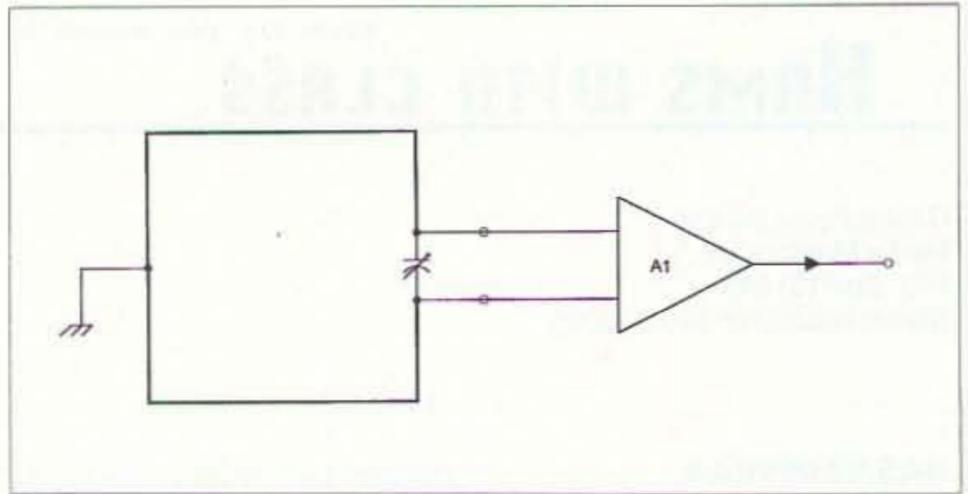
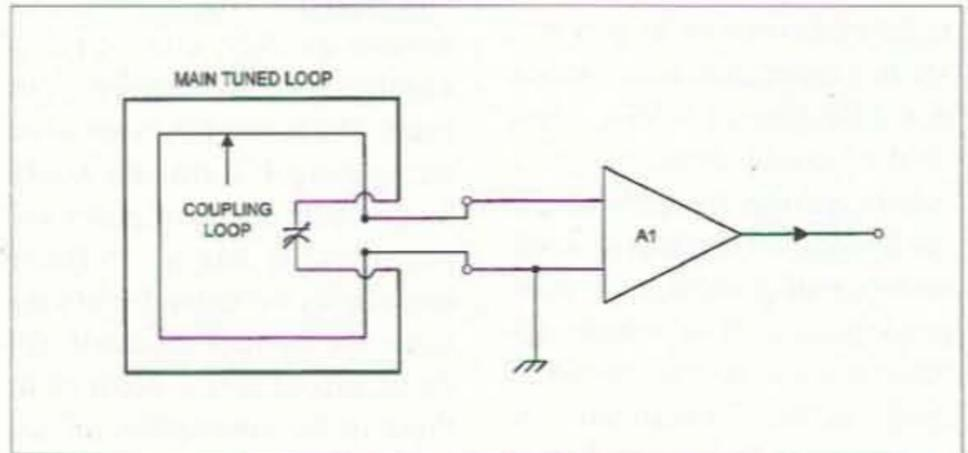

Fig. 1. Basic single-ended loop amplifier.
Fig. 2. Single-ended with coupling loop.
**Fig. 1** shows the most basic single-ended amplifier and loop configuration. The loops in
Figs. 1-5 are shown as single-turn loops, but that is a graphical convenience, and both single-turn and multi-turn loops are intended. The loop is tuned by a capacitor. One end of the loop and the loop winding is grounded, as is one terminal of the amplifier input. A variant circuit is shown in Fig. 2. The version in Fig. 1 uses the main loop to provide signal directly to amplifier A1, while the variant version of Fig. 2 uses a coupling loop (magnetically coupled to the main loop) to provide signal to the amplifier. Both are single-ended, but in one case the main loop is used and in the other a coupling loop is used.